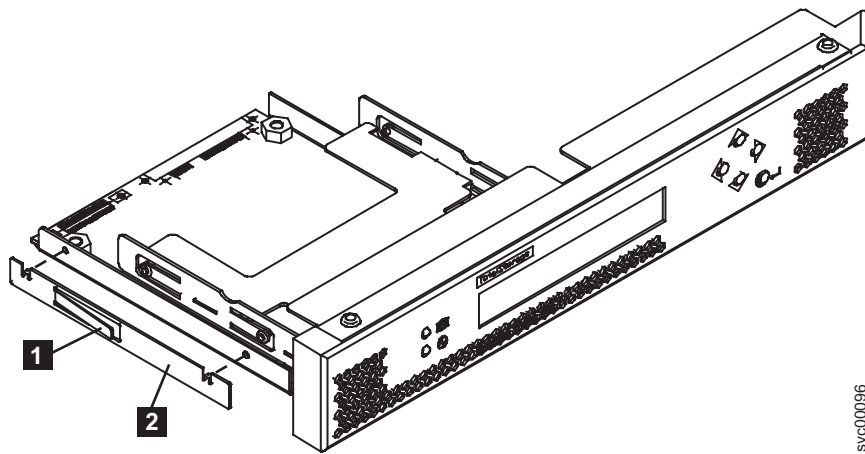

Figure 86. SAN Volume Controller 2145-8F2 or SAN Volume Controller 2145-8F4 service controller
1. Place the retention clip (**2** in Figure 86 on page 98) over the locating holes on the left side of the service controller.